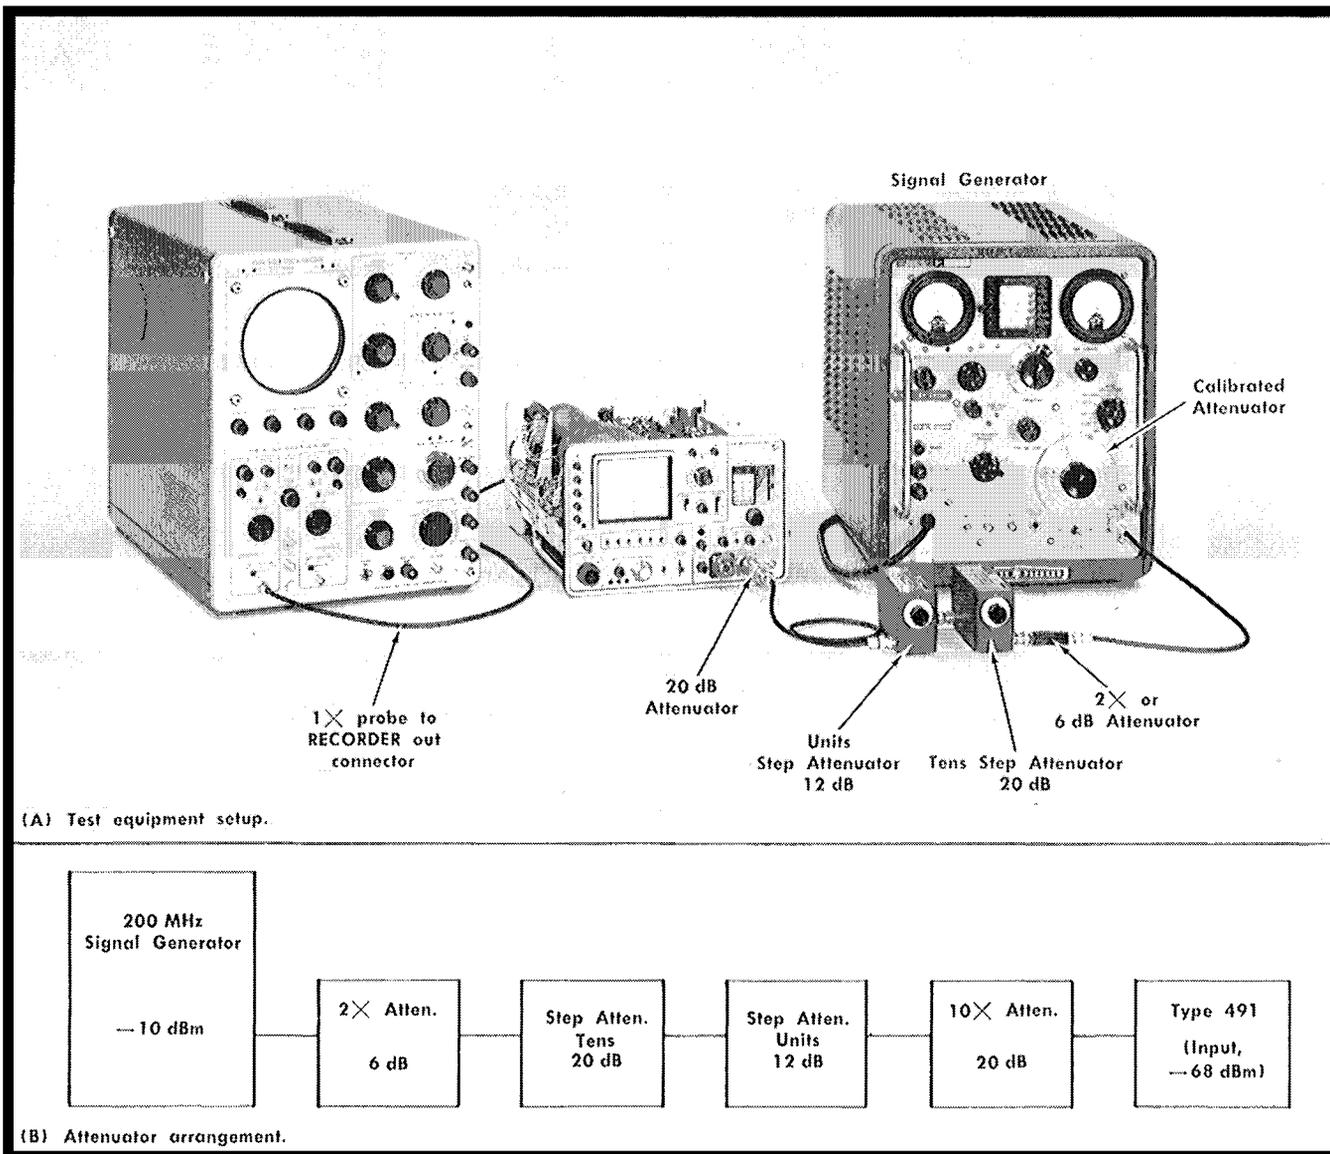

Fig. 6-35. Test equipment setup to check dynamic range, IF GAIN control range, IF ATTENUATOR dB accuracy RECORDER signal out amplitude and incidental FM.
- a. Equipment setup is shown in Fig. 6-35.